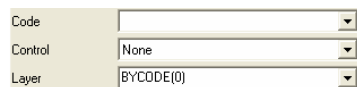

Figure 5-33. Layer Determination when Applying Codes
- If the point has multiple codes, setting Layer to “BYCODE” forces it to belong to multiple layers (Figure 5-33).
- If the point has no code, setting Layer to “BYCODE” forces the point to belong to Layer 0 (zero) (Figure 5-33).